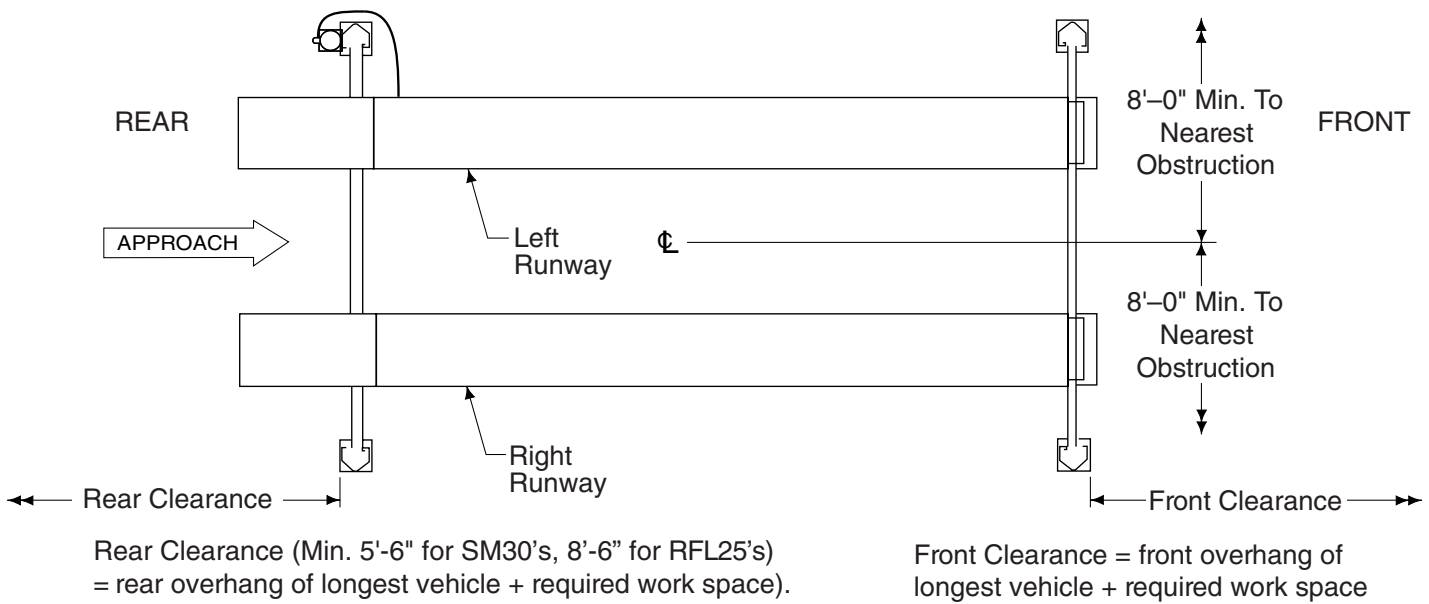

Fig. 1
1. Lift Location: Use architects plan when available to locate lift. Fig. 1 shows dimensions of a typical bay layout. For power unit at right front, rotate lift 180°, leaving ramp/chocks and wheel stops in original position. Lift floor area should be level.
- Position front and rear yokes at respective ends of runway, Fig. 1. Feed cable ends through yoke end, Fig. 4. Do not assemble sheaves in yoke ends at this time.
- A. Keep columns square to center line of lift. Check lift location in the bay, Fig. 1. Check dimensions side-to-side, front-to-rear, and diagonally. Diagonals must be equal to within  $\frac{1}{4}$ " Fig. 9. for each column.